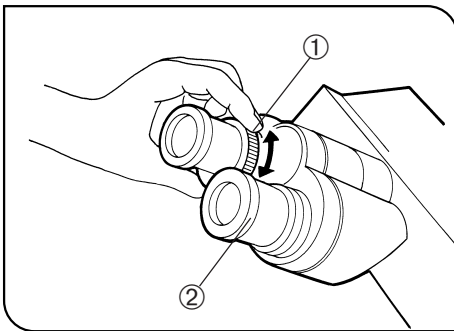

Fig. 22
(Figs 22 & 23)
2. Looking through the eyepiece with the diopter adjustment ring, turn only the diopter adjustment ring ① to focus on the specimen. (Fig. 22)
1. Looking through the right eyepiece with your right eye, turn the top of the eyepiece ② until a clearly defined double crossline can be seen in the field of view. (Figs. 22 & 23)
3. Looking through the left eyepiece with your left eye, turn the diopter adjustment ring ① to focus on the specimen.